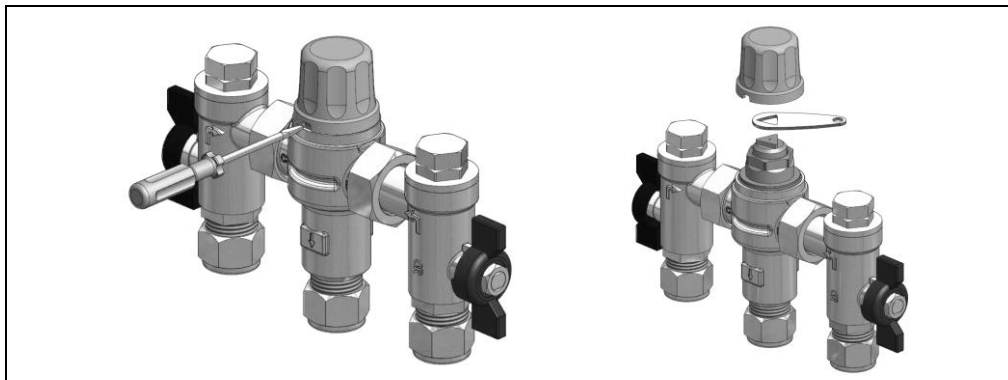

Figure 4 Increasing and Decreasing the Mixed Water Temperature
- Using a small flat bladed screw driver, pry the protective cover off the valve (figure 4).
- Fit the supplied key over the adjusting spindle (figure 4)
- Remove the adjustment cover with a flat bladed screw driver. See figure 4.